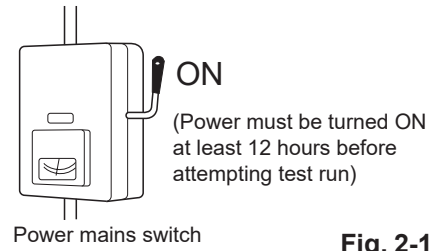

Fig. 2-1
- (1) All loose matter is removed from the cabinet especially steel filings, bits of wire, and clips.
- (2) The control wiring is correctly connected and all electrical connections are tight.
- (3) The protective spacers for the compressor used for transportation have been removed. If not, remove them now.
- (4) The transportation pads for the indoor fan have been removed. If not, remove them now.
- (5) The power has been supplied to the unit for at least 12 hours before starting the compressor. The bottom of the compressor should be warm to the touch and the crankcase heater around the feet of the compressor should be hot to the touch. (Fig. 2-1)